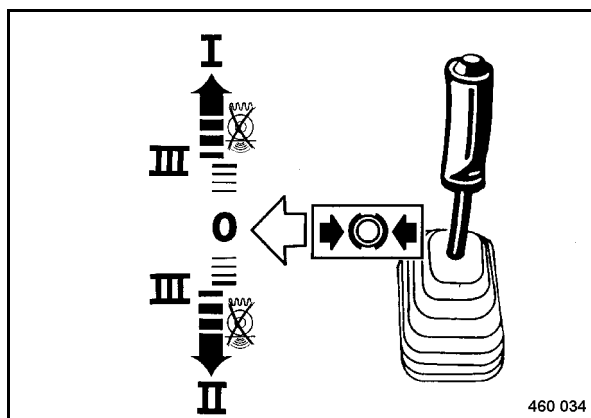

Fig. 58
- Shift the travel lever (Fig. 58) slowly to the desired travel direction, max. to position "III".
When actuating the travel lever (Fig. 58) through position "III", vibration will be automatically switched off.